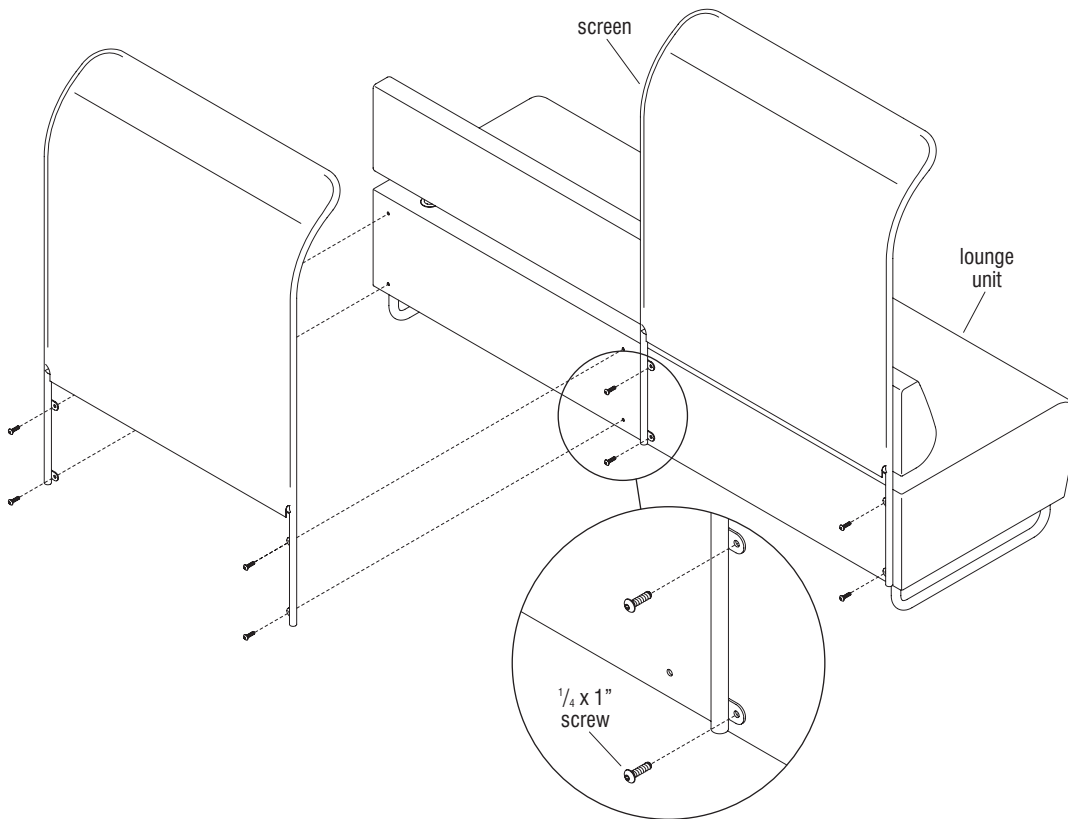

Figure 1
2. Using a screwdriver and #2 bit, remove all screws. Use these screws to mount the screens to the backs of the lounges as shown (Figure 1 & Detail B).